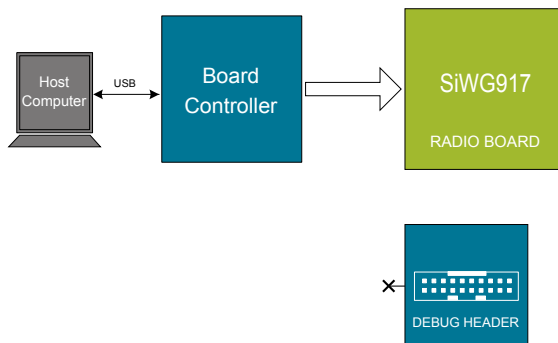

Figure 8.1. Debug MCU
- Corrected the radio board graphic with the SiWG917 part number in Figures 8.1, 8.2, 8.3, and 8.4.